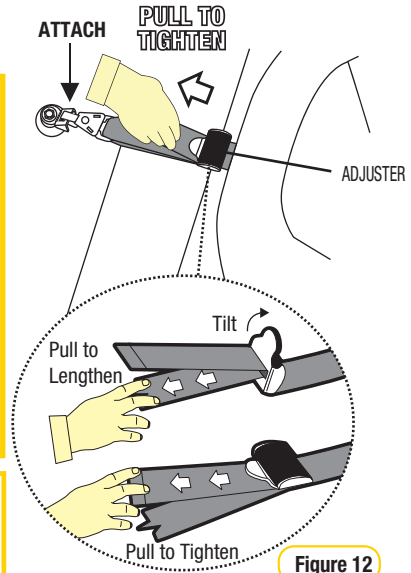

Figure 12
**Step 6:** Pull to tighten to remove all the slack, from the upper anchorage strap. Do not overtighten as this could cause the restraint to lift off the vehicle seat (refer to Figure 12).